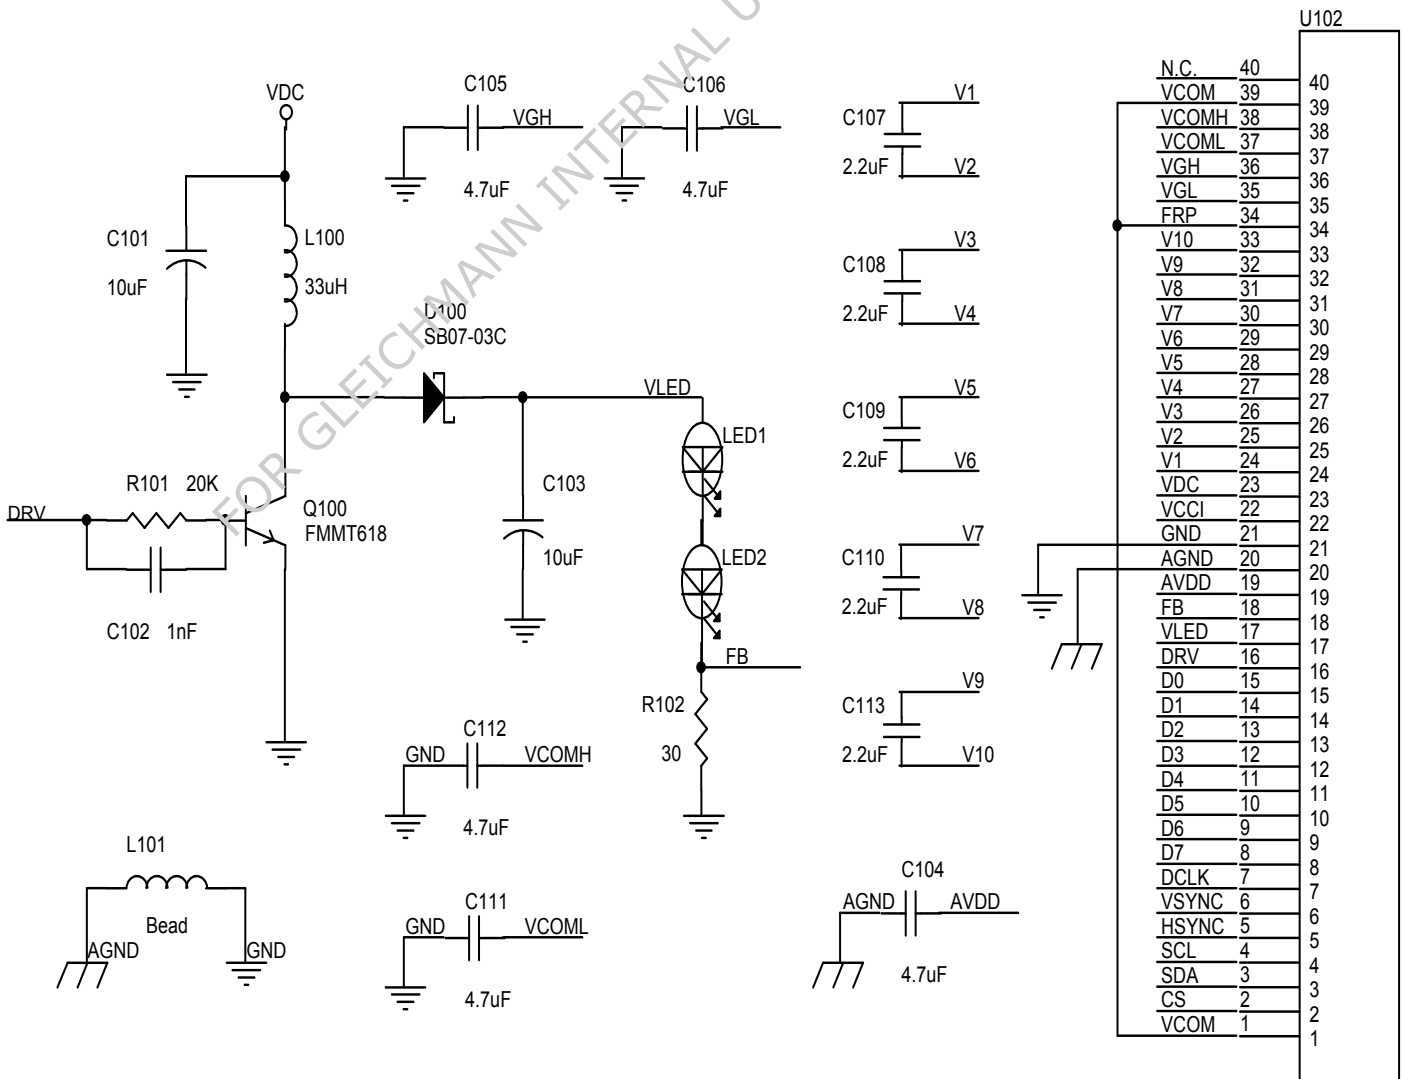

Fig.12 Typical Application Circuit
The integrated driver IC provides build-in LED booster controller, DC-DC charge pump, and Vcom driver. See Fig. 12 for the application circuit.
According to Fig. 12, the L100, Q100, D100, and C103 together form the LED boost converter. The converter with 0.6V feedback (FB) and R102 provide a constant 20mA current for LED backlight unit. The boost converter switching signal DRV is generated based on divided frequency of DCLK. Therefore the DCLK input is required for LED driver operation, and the absence of DCLK signal during normal operation will set the driver IC into standby mode. A low ESR capacitor for C103 is recommended in order to reduce voltage ripple of VLED. The built-in LED boost controller is default active, and it is able to be turned off by setting the register SHDB1 to low. The LED booster circuit may cause the wave-like phenomenon. In order to reduce the phenomenon, AGND and DGND (system GND) and LED booster circuit GND must be separated.